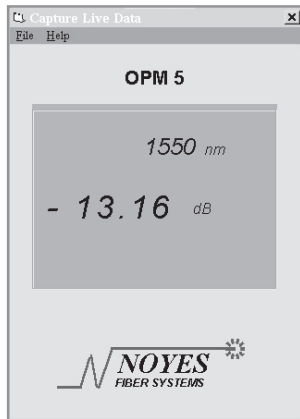

Figure 3
- 1 Select "File" then "Capture Live Data". The Capture Live Data window will appear (Figure 3).